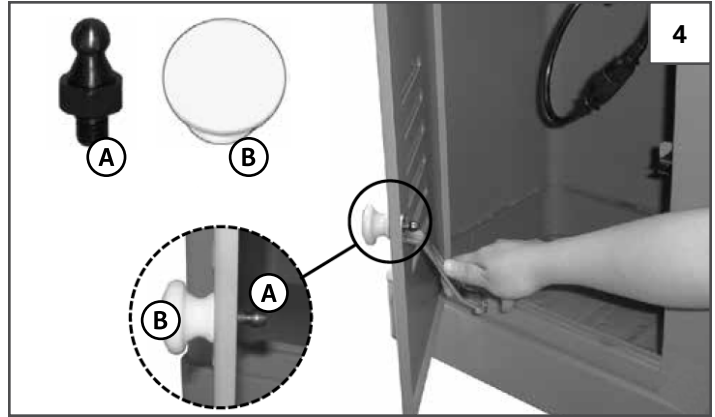

FIGURE 4: INSTALLING CABINET DOOR KNOB
1. From the inside, insert the **DOOR BOLT (A)** through the hole in the door and into the **DOOR KNOB (B)**. See Figure 4.